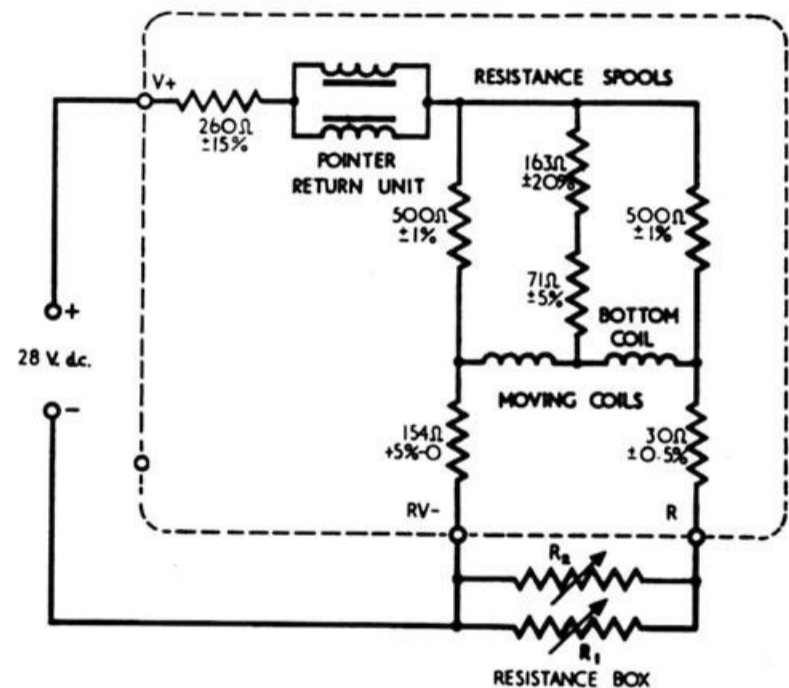

Fig. 2. Circuit and test circuit
4. When testing these indicators for serviceability, the SST given in Chapter 1-1 must be used, but connect two, decade resistance boxes in parallel as shown in fig. 2, and use the calibration values given overleaf in Table 1.